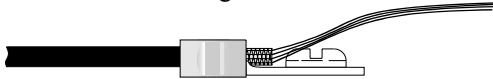

Figure 2b
- 3). Next, crimp the lug on to the cable shield, **do not crimp too tight and risk smashing the wires**. This could cause them to short to ground. Figure 2b shows a side view of the completed operation after crimping.